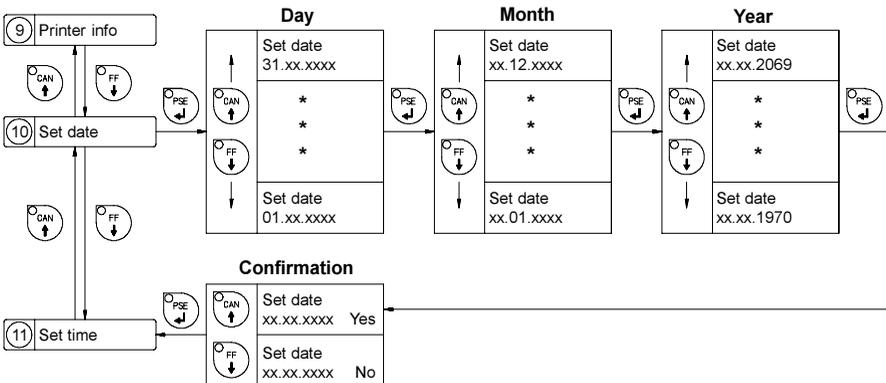

Fig. 9 I Set system date
Fig. 9 a Setup parameters
Fig. 9 b Set "Country" parameter
Fig. 9 c Set "Transfer print" parameter
Fig. 9 d Set "Label sensor" parameter
Fig. 9 e Set "Interface" parameter
Fig. 9 f Set "Cut Position" parameter
Fig. 9 g Set "Peel Position" parameter
Fig. 9 h Set "Printhead position" parameter
Fig. 9 i Set "Heat level" parameter
Fig. 9 k Printer info display
The date format shown depends on the selected "Country" parameter. Regardless of the format, the order of data to be changed (day - month - year) always follows the same routine as shown below. (Figure 9 I)
**Fig. 9 m Set system time**
Fig. 9 n Set "Character set" parameter
**Fig. 9 o Delete/Format a memory card**
Fig. 9 p Copy memory card
Fig. 9 q Set "Backfeed" parameter
Fig. 9 r Set "Debug mode"
Fig. 9 s Set "Tear-off position" parameter
Fig. 9 t Set "Pause Reprint" parameter